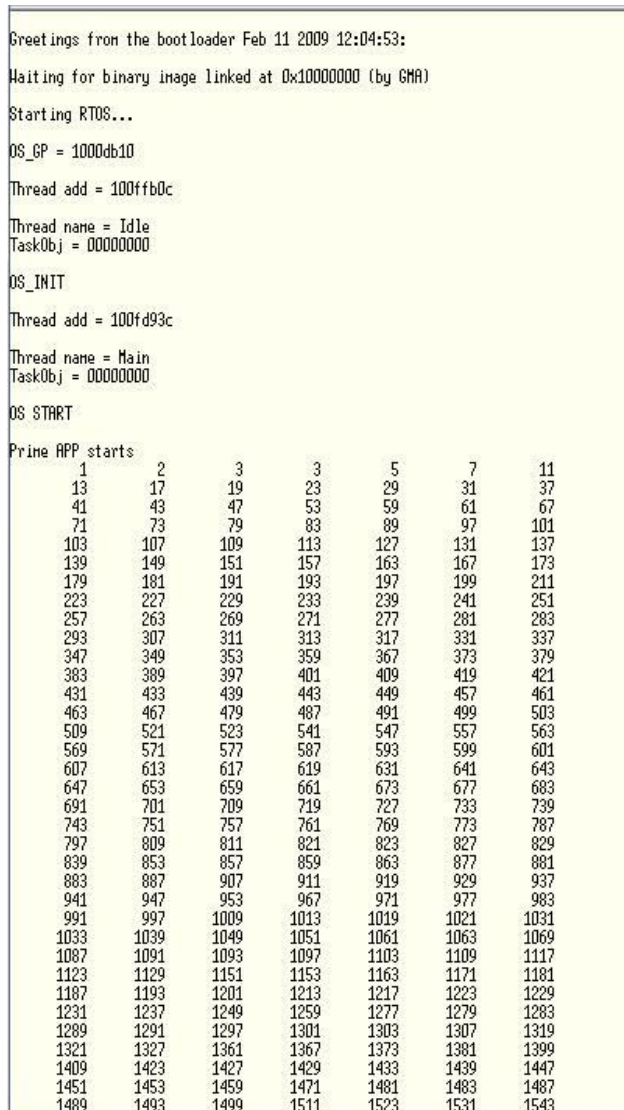

Figure 14 : Prime application output
- a. Calculate the first 1000 prime numbers and print them on the screen (printf function). You can find in \$(HOME)/lab3-1/OS/kernel/libc.c file some useful functions for helping you in this process. The output should be something like presented in Figure 15. The output should be something like shown in Figure 14.*